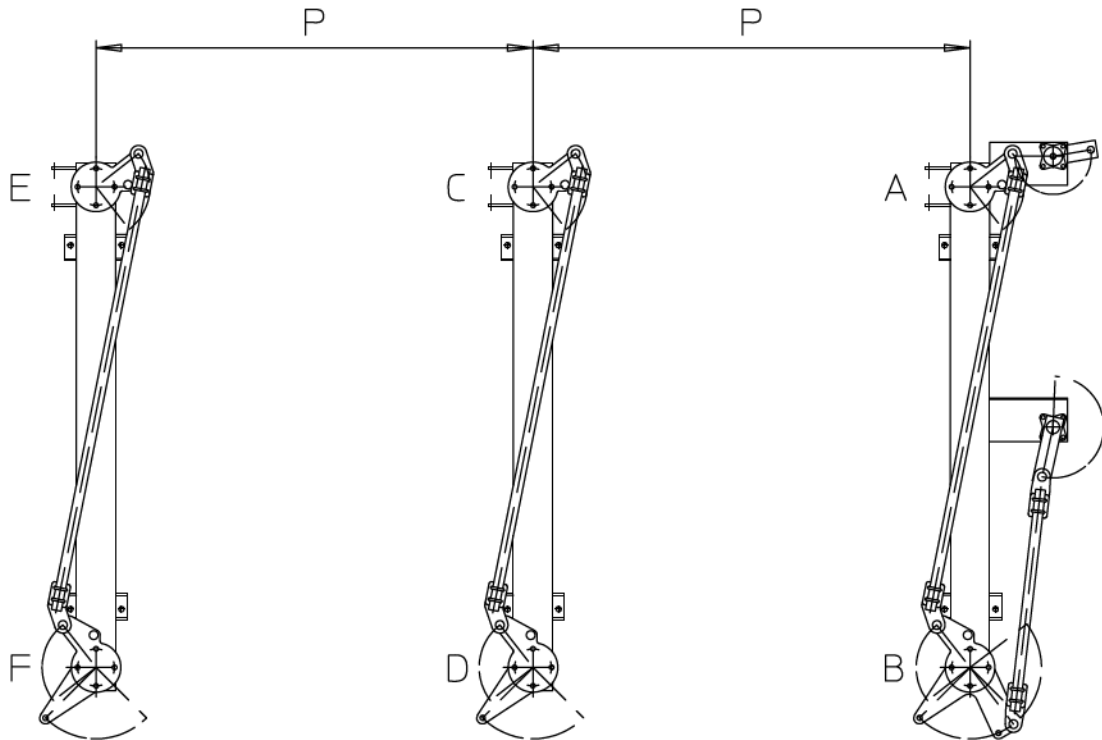
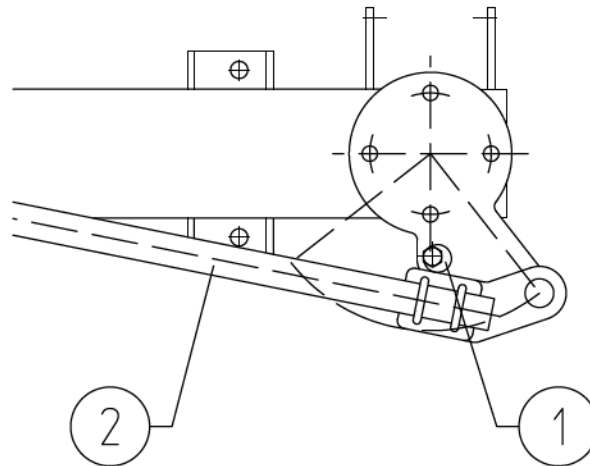

Figure 2
Figure 3
2. Remove the insulator fixing bolts of turntable A. See Figure 2.
1. Make sure the turntables are in the position drawn in Figure 2. The eccentric stops of turntable A, C and E must touch the turntable coupling rods. See Figure 3. This is the closed position of the disconnect.